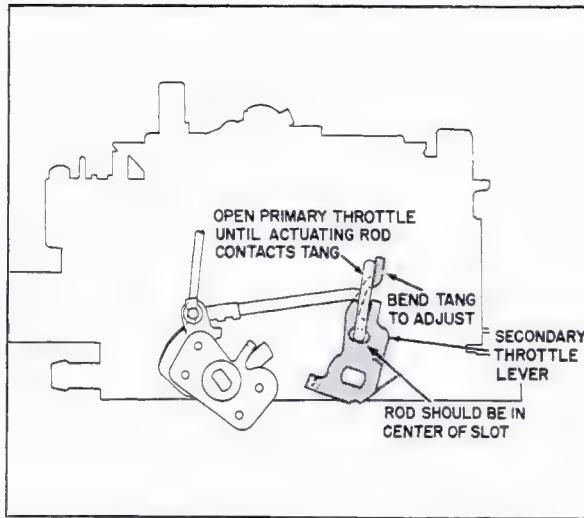

Fig. 6-84 Secondary Throttle Adjustment
87. Secondary Throttle Opening Adjustment (Fig. 6-84)
- Bend tang on secondary throttle lever, Fig. 6-84, if necessary to adjust.